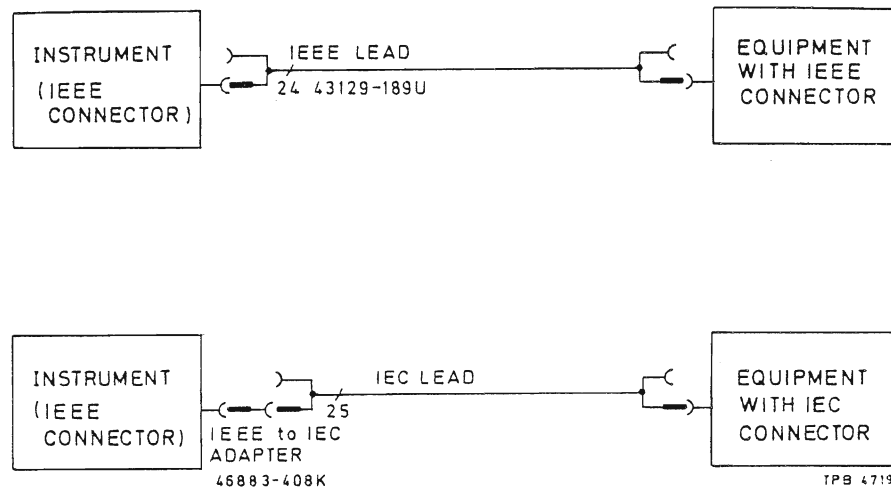

Fig. 3 GPIB interconnections
10. Connection to other equipment which has a 24-way connector to IEEE Standard 488 must be made using the Adapter's rear panel GPIB socket. For this purpose, the GPIB lead assembly available as an optional accessory (see Chap. 1, Accessories) may be used. An optional IEEE-to-IEC adapter is also available (see Fig. 3 below) for interfacing with systems using a 25-way bus connector to IEC Recommendation 625.